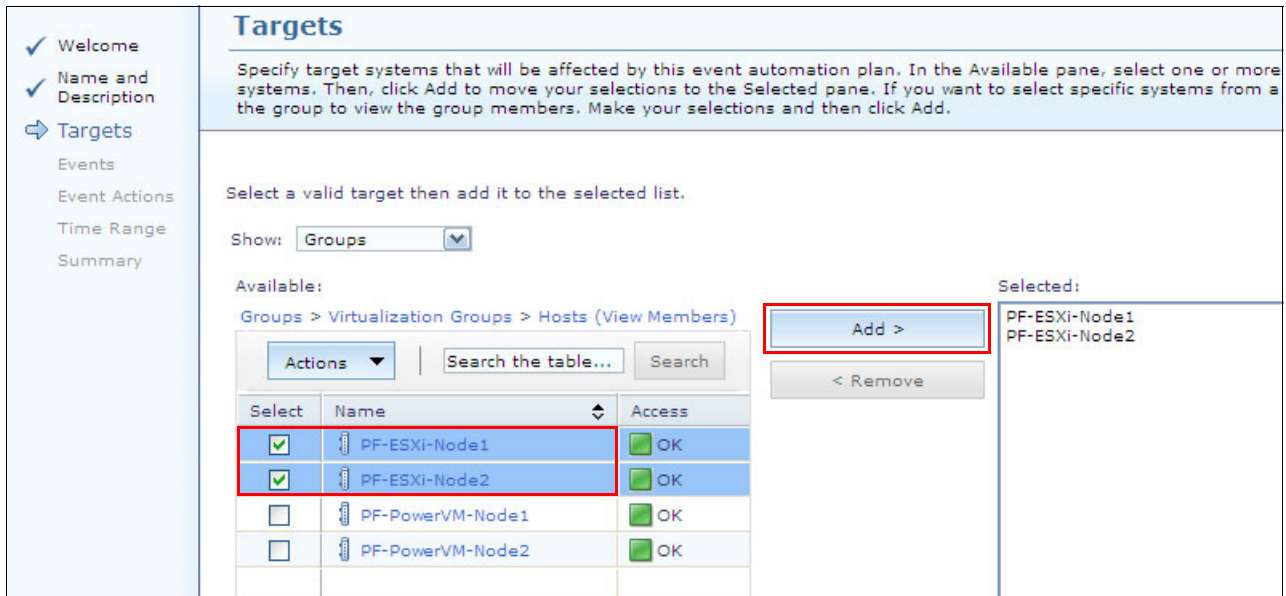

Figure 11-69 Create Event Automation Plan Wizard Targets window
4. In the Targets window, select the systems to be affected by the event automation plan. For this example, select the two ESXi servers, **PF-ESXi-Node1** and **PF-ESXi-Node2**, as shown in Figure 11-69, and click **Add**. Click **Next** to proceed.